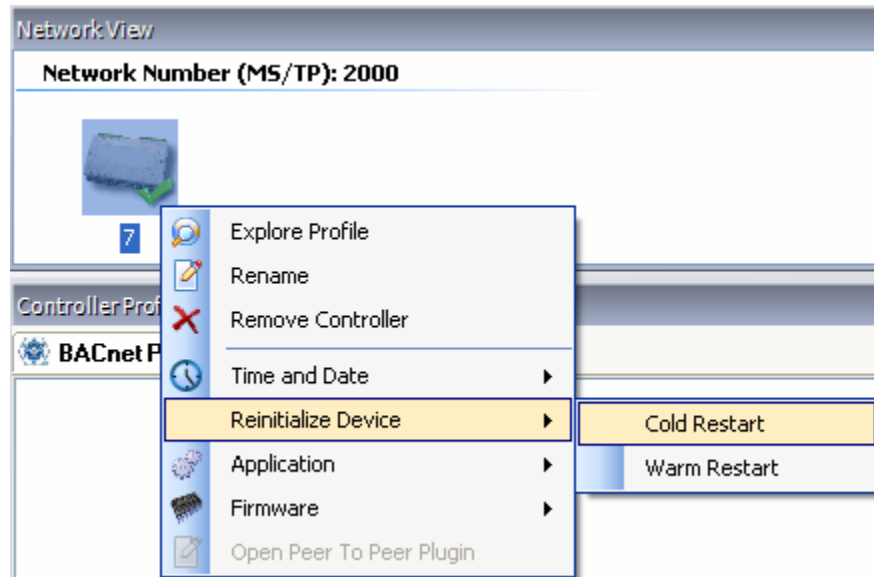

Figure 38: Reinitializing the Device
2. Right-click the selected device (Figure 38), and select Reinitialize Device. Two options appear: